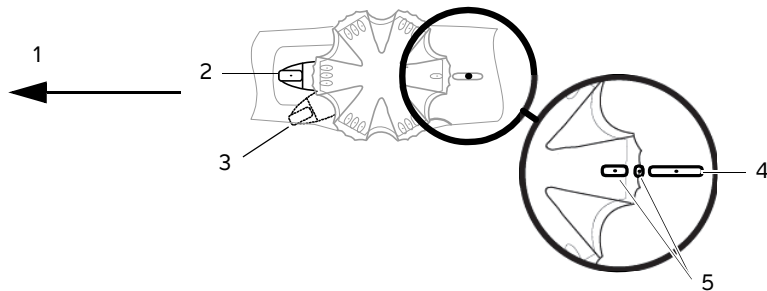

Figure 2-6 Tip deflection brake operation
The brake for the anterior/posterior deflection is a handle under the deflection wheel (see Figure 2-6). There is no brake for the right/left deflection.
- ▶ To prevent damage to the patient’s esophagus when inserting or withdrawing the transducer, the control wheel must be in the freely moving, neutral, and unlocked state. See **Figure 2-6** on page 2-8.